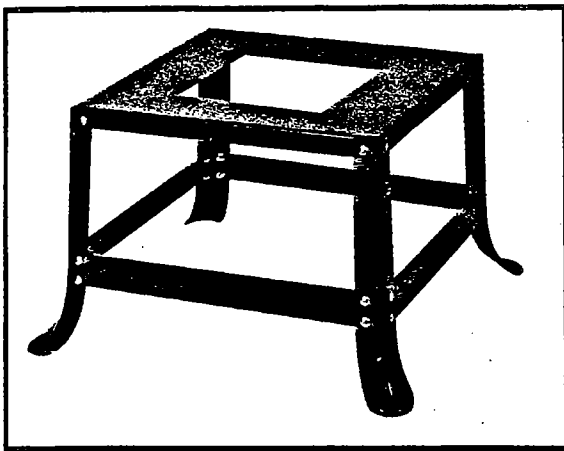

Fig. 4
1. Assemble the stand as shown in Fig. 4, using the 24 screws and nuts supplied. Only tighten the screws and nuts finger tight at this time.